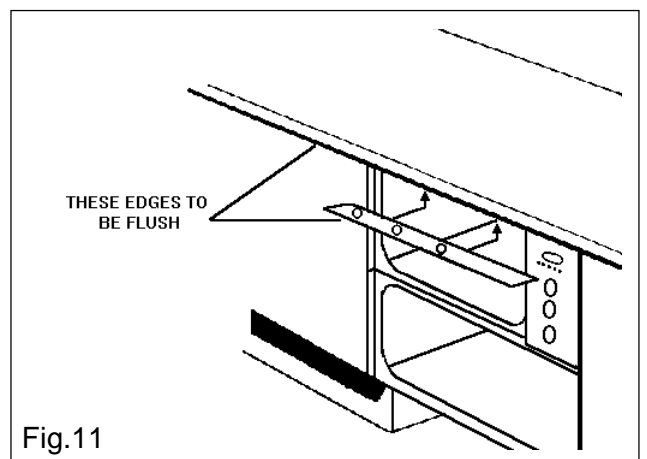

Fig.11
**Place the top trim with the cork washers uppermost flush with the edge of the worksurface (see Fig.11) and screw into position using the screws supplied with the cooker.**